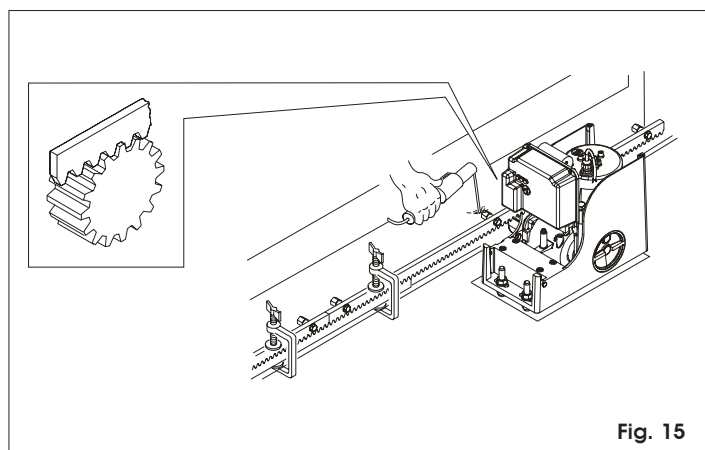

Fig. 15
- 5) Bring another rack element near to the previous one, using a piece of rack (as shown in figure 15) to synchronise the teeth of the two elements.